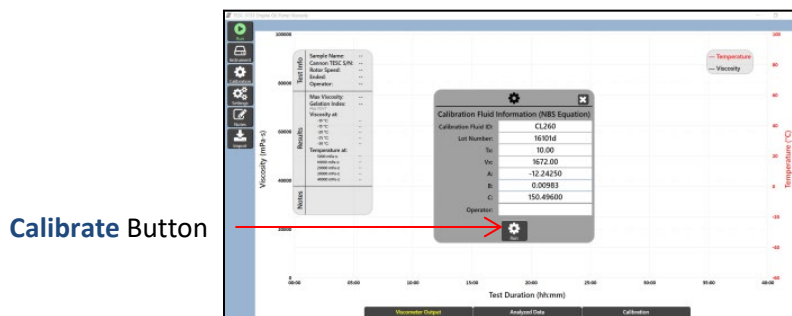

Figure 61: Calibrate Window in TESC Software
- After all appropriate values are entered, click **Confirm**. Then click **Calibrate** in the software window. Refer to Figure 61.